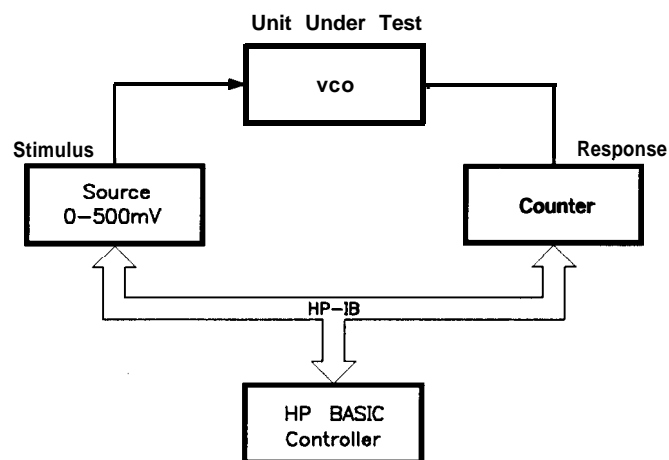

Figure 1-28. Voltage Controlled Oscillator Test Program Listing.
**Description.** This example demonstrates how several SCPI instruments work together to perform a stimulus/response measurement. This program measures the linearity of a voltage controlled oscillator (VCO). A VCO is a device that outputs a frequency proportional to an input signal level. Figure 1-28 shows how the hardware is configured.